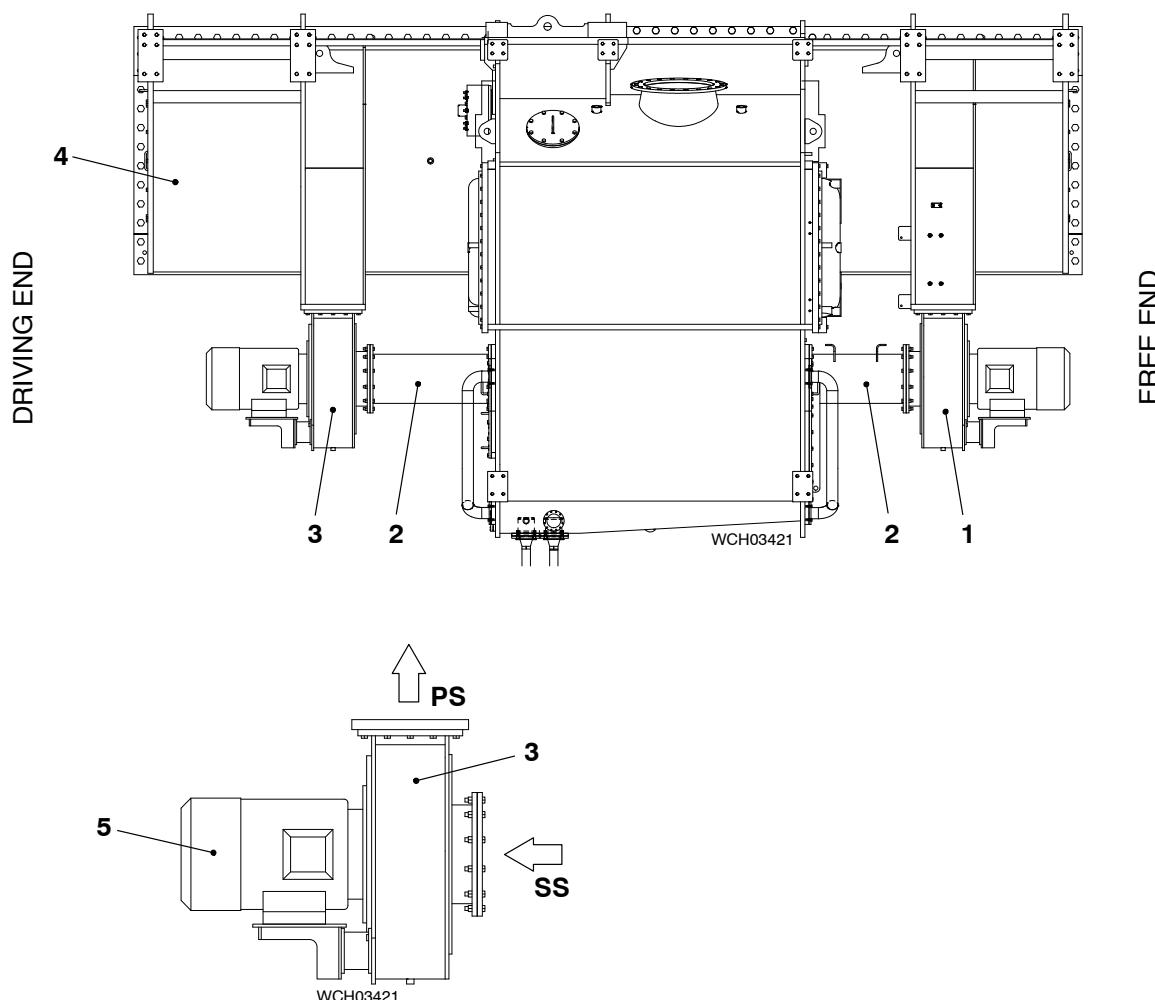

Fig. 1: Location of Auxiliary Blowers
The electric motors (5, Fig. 1) operate the two auxiliary blowers (1, 3), which are installed on the scavenge air receiver (4). The auxiliary blowers (1, 3) supply air from the air space through the ducts (2) into the receiver space during the engine start and operation at low load. Flaps prevent the back-flow of air to the scavenge air receiver (for more data, refer to 6420-1 Scavenge Air Receiver).